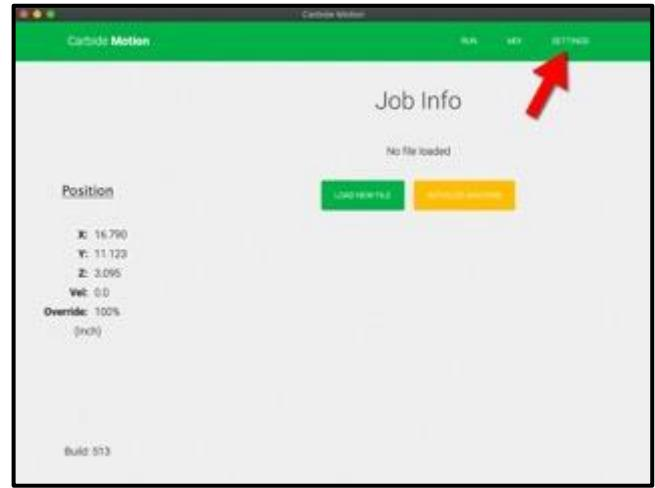

Figure 13-2
1. Once your screen reads “Job Info,” click the **Settings button** in the top menu bar to open Settings. See *Figure 13-2*.